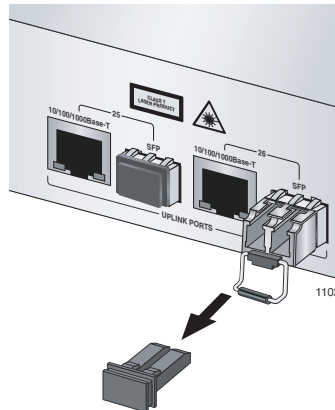

Figure 14. Removing the Dust Plug from the SFP
1. Remove the dust plug from the SFP, as shown in Figure 14.